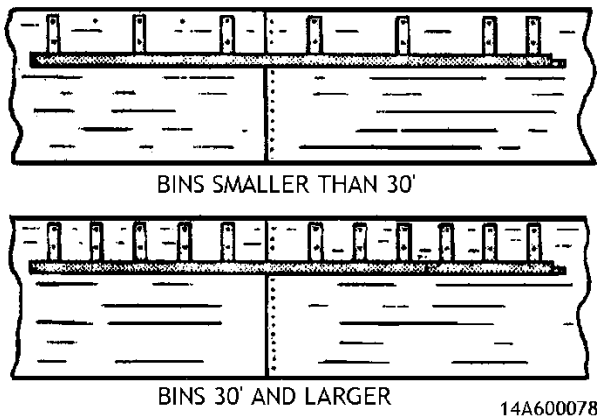

Fig. 3 – Track bracket placement
- A1 For Sukup bins smaller than 30' diameter, insert 5/16" x 1-1/4" bolts in top hole of every other pair of bolt holes around top of bin (approximately 18" spacing). For Sukup bins 30' and larger, place bolts in top hole of every pair of bolt holes (approximately 9" spacing) except those at bin wall seam. See Figs. 3 & 4.
- A2 Mount one length of track with bolts through top holes on track brackets. See Figs. 3 & 4.
- A2.1 *Note:* On bins 30' and larger with a double-bracketed track, a gap has been left to prevent interference between seam bolts and track brackets. Install first section of track with seam in place of missing bracket. See Fig. 3.
- B1 For bins smaller than 30', insert 5/16" x 1-1/4" bolts in single ring of bolt holes around top of bin (approximately 18" spacing). For bins 30' and larger, place bolts in every bolt hole (approximately 9" spacing) except those at bin wall seam. See Fig. 3.
- B3 Mount first segment of track over bolts and screw on a second 5/16" nut. See Figs. 3 & 6.
B3.1 *Note:* On bins 30' and larger with a double-bracketed track, a gap has been left to prevent interference between vertical seam on sidewall sheets and track brackets. Install first section of track with bin wall seam in place of missing bracket. See Fig. 3.
B5 After all track sections are in place, drill second, lower bolt holes through bin sheets using track brackets as pattern. See Fig. 3.